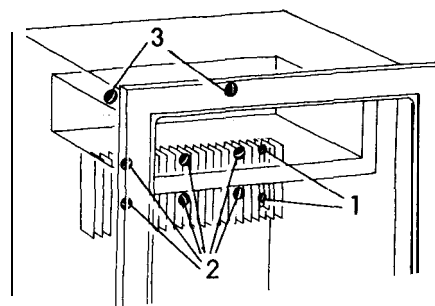

Fig.14
2. Remove the thermostat capillary tube by loosening the two screws (1) on the evaporator fins (fig. 14).
5. Remove the screws (2) in fig. 14 and take away the evaporator fin. Remove the screws (3).